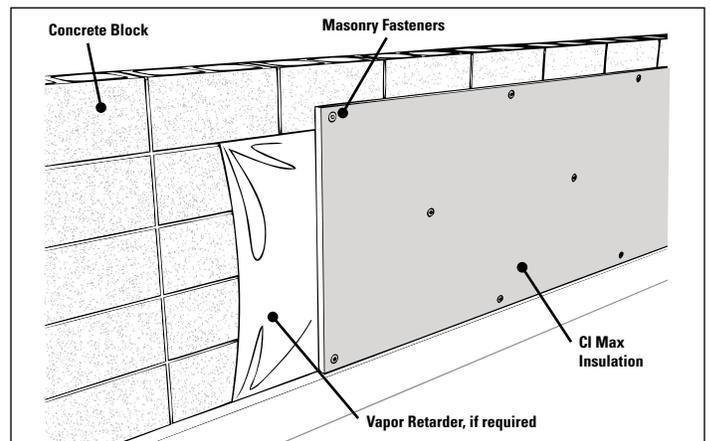

Figure 1. CI Max boards mechanically fastened
1. Fasten CI Max insulation boards to the interior of the wall using power-driven masonry nails with 1½-inch minimum diameter metal washers or caps, or other suitable masonry fastener. For crawl space wall installation, CI Max insulation should be installed horizontally (as shown in Figure 1). For basement installations, CI Max insulation can be installed either vertically or horizontally.